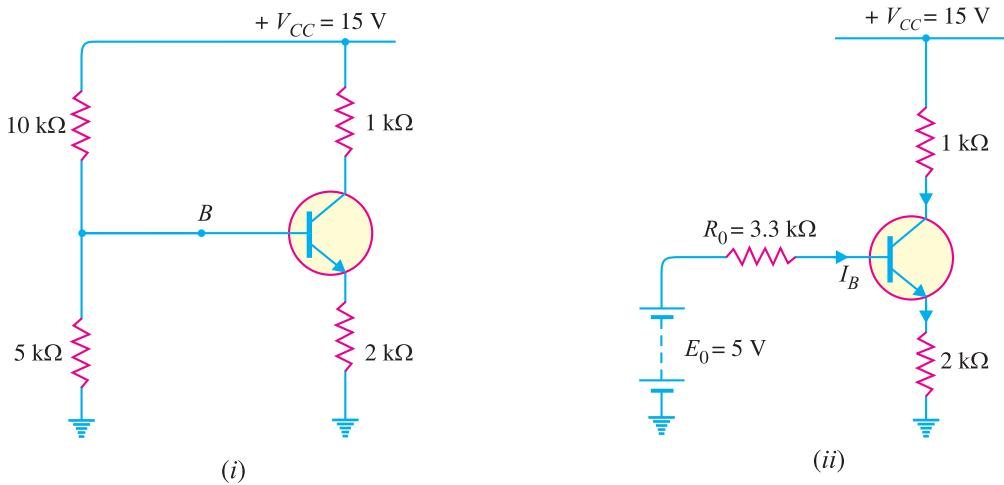

Fig. 9.33
**Example 9.27.** Calculate the exact value of emitter current in the circuit shown in Fig. 9.33 (i). Assume the transistor to be of silicon and  $\beta = 100$ .
**Solution.** In order to obtain accurate value of emitter current  $I_E$ , we shall replace the bias portion of the circuit shown in Fig. 9.33 (i) by its Thevenin's equivalent. Fig. 9.33 (ii) shows the desired circuit.
Applying Kirchhoff's voltage law to the base-emitter loop [See Fig. 9.33 (ii)],